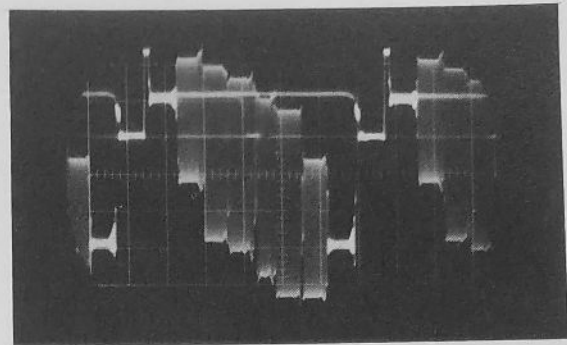

Figure 34. Input, Video Input 2J13. Output, Red Output, 0.7V B-W with Killer Fully CCW. Set Brightness Control at 1/3 Rotation.
44. While varying the CONTRAST control, adjust the color killer control, 2R27, so that relay 2K2 switches to wide band operation (wide band is recognizable when the subcarrier bursts come through) as the signal amplitude falls below 0.6 volt. (See Figure 34.)